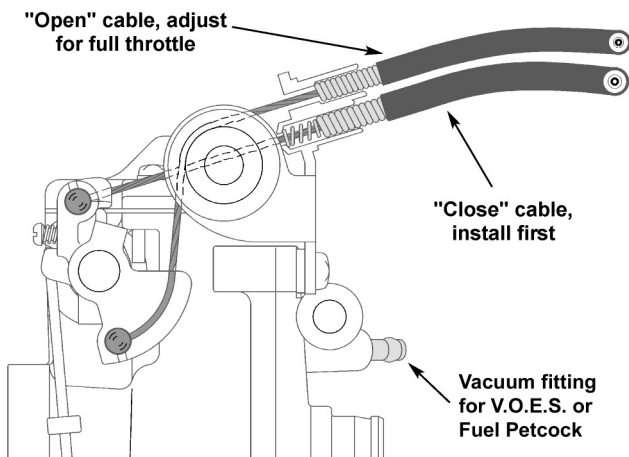

Figure 3
- B. Connect the throttle cables to the carburetor bell crank by first installing the closing cable, then the opening cable (Figure 3).